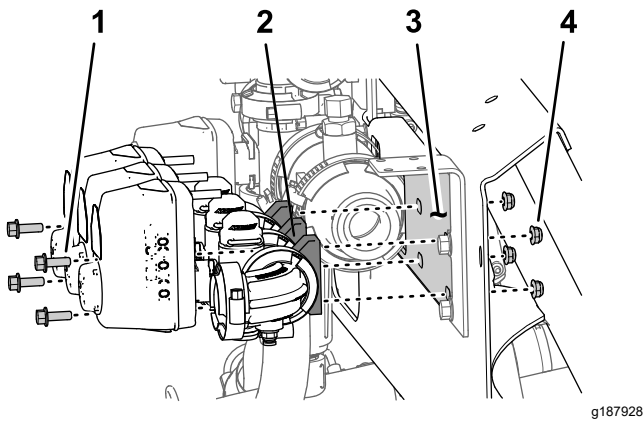

Figure 52
- Remove the 2 flange-head bolts (1/4 x 3/4 inch) and 2 locknuts (1/4 inch) that secure the right boom-section valve to the manifold mount (Figure 52).
- Remove the 2 flange-head bolts (1/4 x 3/4 inch) and 2 locknuts (1/4 inch) that secure the left boom-section valve to the manifold mount (Figure 52).
- Remove the boom-section valves from the manifold mount and set aside the valves (Figure 52).